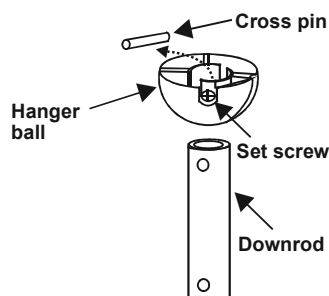

Figure 7
4. Remove hanger ball from down rod assembly by loosening set screw, removing the cross pin and sliding ball off rod. (Fig. 7)
5. Loosen the two set screws and remove the hitch pin and lock pin from the central shaft/top coupling of the motor assembly. Doing so will allow the downrod to enter the central shaft. (Fig. 7)